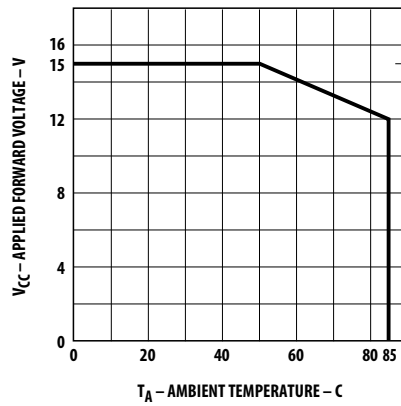

Figure 4. Maximum allowed applied forward voltage vs. ambient temperature $R\theta_{JA} = 175^{\circ}\text{C}/\text{W}$. 12 volt devices.
3. Derate from T_A = 50°C at 0.086 V/°C, see Figure 4.